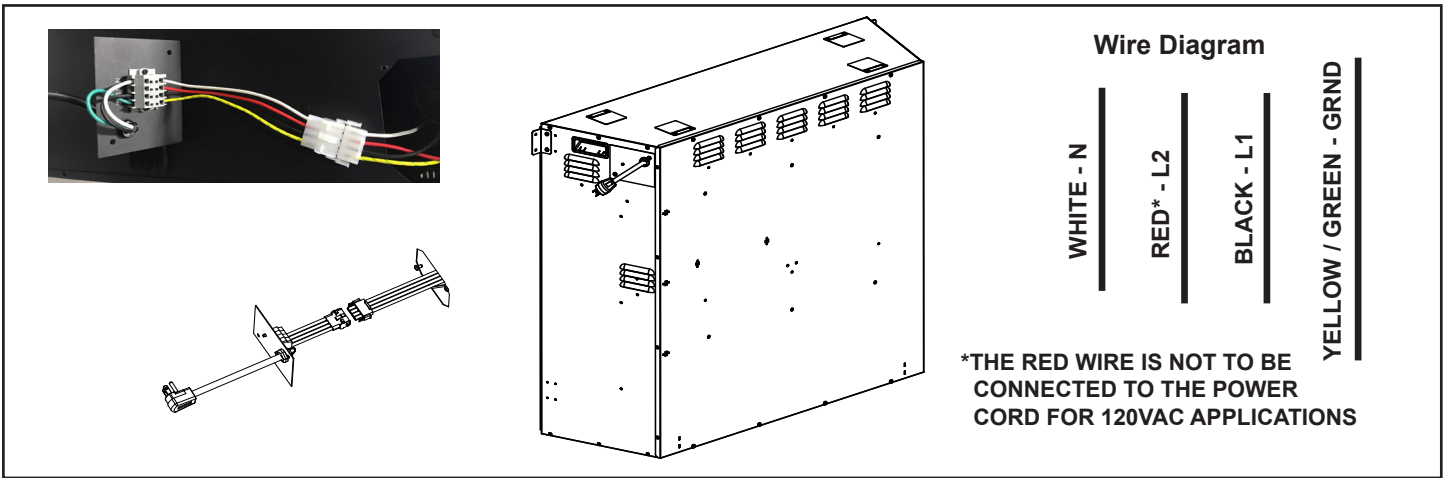

Figure 4.5 Optional Power Cord Assembly
3. Connect the conductor wire connector to the connector on the block supplied with the power cord kit. See Figure 4.5.